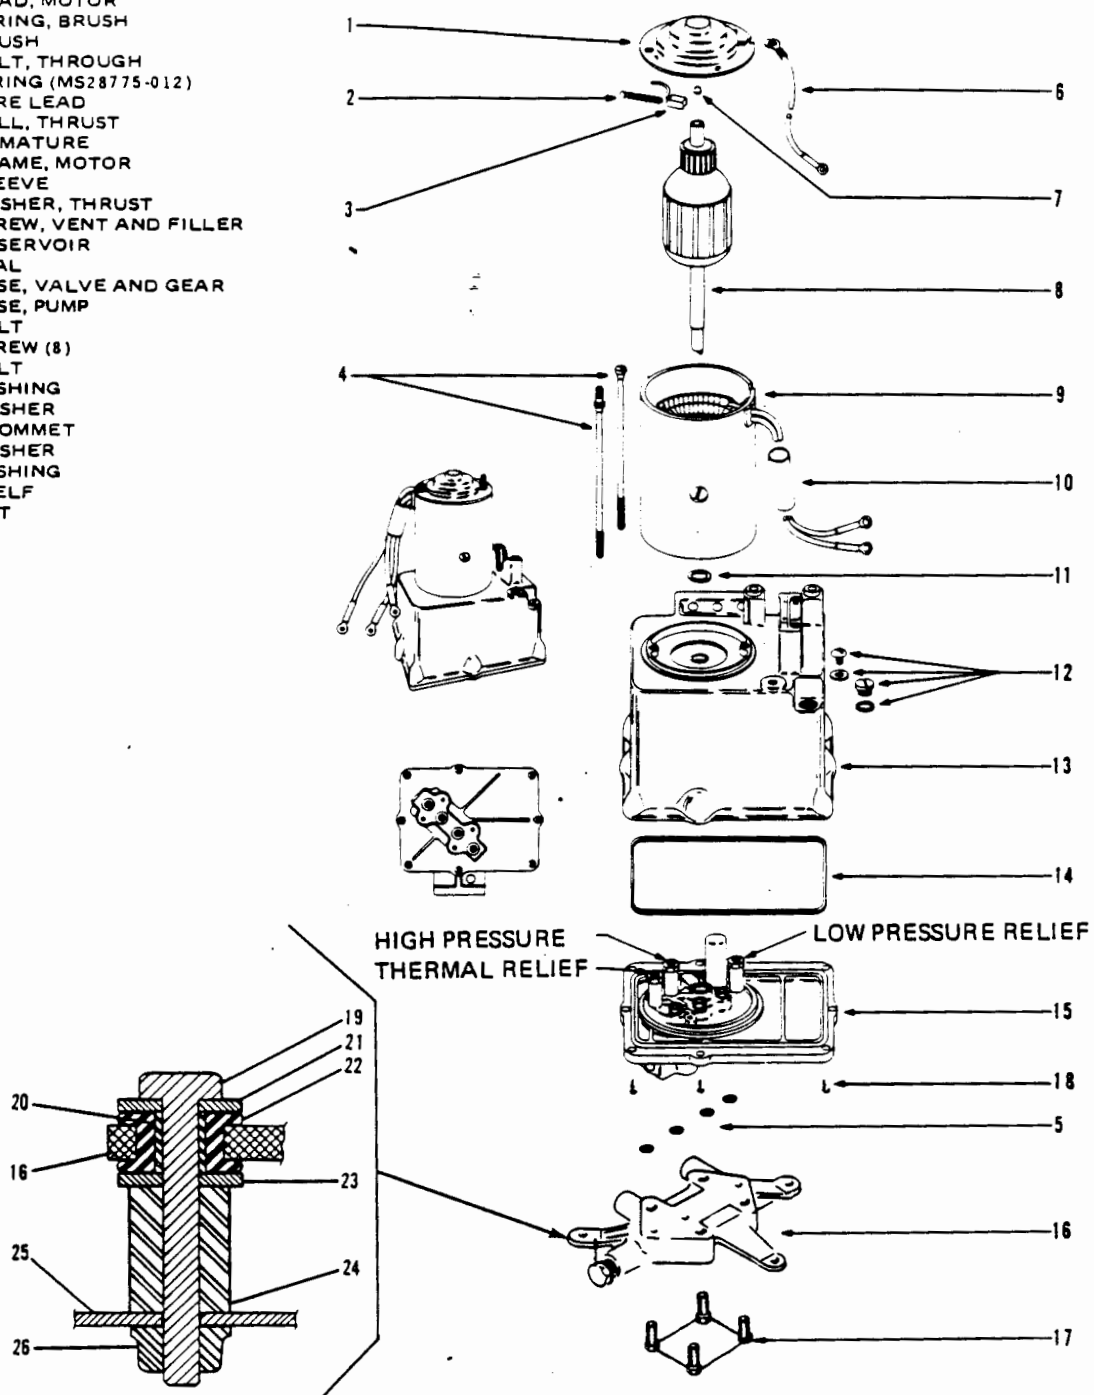

Figure 29-3. Hydraulic Pump/Reservoir, Exploded View
DISASSEMBLY OF HYDRAULIC PUMP. (Refer to Figure 29-3.)
ASSEMBLY OF HYDRAULIC PUMP. (Refer to Figure 29-3.)
- F. Connect blue lead to positive terminal of power supply. Pump should operate and the high pressure gauge should indicate a specific pressure, as given in Chart 2902. (Should the gauge indicate a pressure below or over the given pressure, adjust valve "A," Figure 29-3 accordingly to obtain the desired reading.)
- H. Connect green lead to positive terminal of power supply. Pump should operate in reverse, dropping reading on high pressure gauge to zero. The low pressure gauge should indicate 500 to 800 psi. (Should the gauge indicate a pressure below 500 psi or over 800 psi, adjust valve "B," Figure 29-3, accordingly to obtain desired reading.) Disconnect green lead. Both pressure gauges should indicate zero psi.
INSTALLATION OF HYDRAULIC PUMP. (Refer to Figure 29-3.)